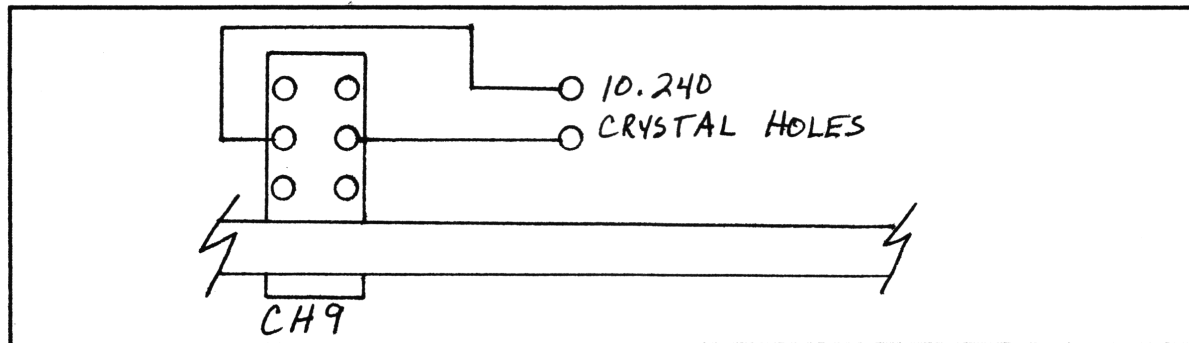

FIGURE 2. AR44/25GTL
8. REFER TO FIGURE 2. SOLDER TWO WIRES IN THE HOLES LEFT BY THE 10.240 CRYSTAL. SOLDER THE OTHER ENDS TO THE TWO CENTER POST ON THE CHANNEL 9 SWITCH.